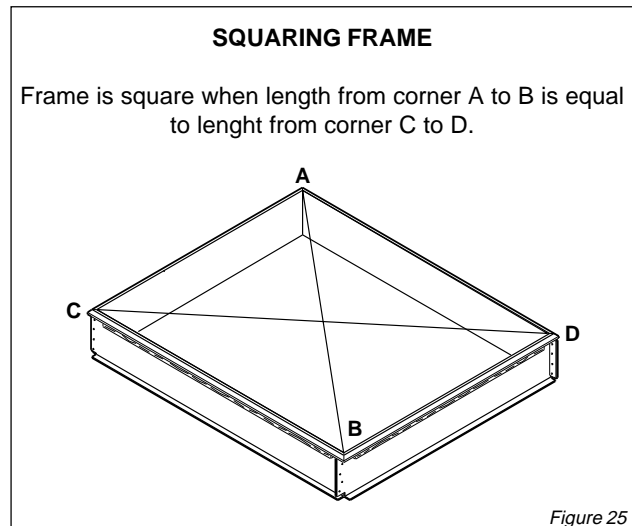

Figure 25
2. Measure frame diagonally from corner to corner as shown in figure 25. These dimensions must be equal for frame to be square.